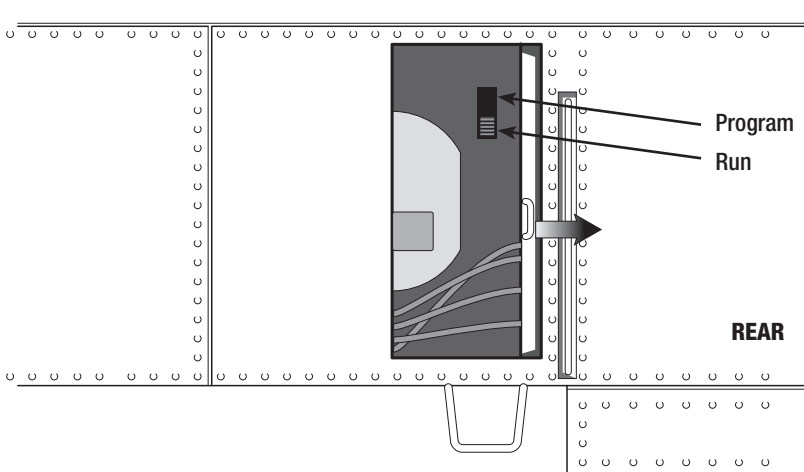

Figure 2. Switch location
1. With track power off, place the Crane Car on the track. Be sure that the RUN/PROGRAM switch is in the RUN position. See Figure 2 on page 7.
3. Slide open the small door on the left-hand side of the cab and slide the RUN/PROGRAM switch towards the top of the car. Refer to Figure 2.